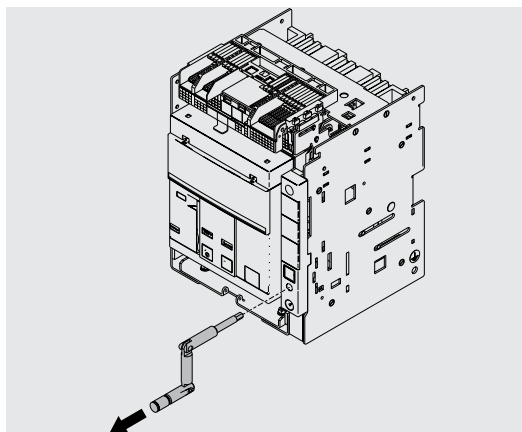

Figure 61
8. Extract the crank. See Figure 61.